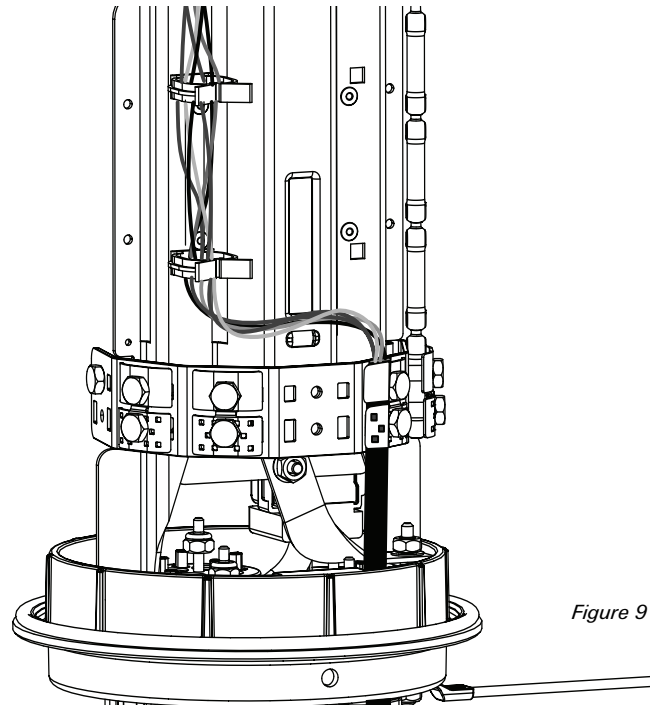

Figure 9
- Route the conductors through the routing rings on the back of the DTerminator 2 terminal block. (Figure 9)